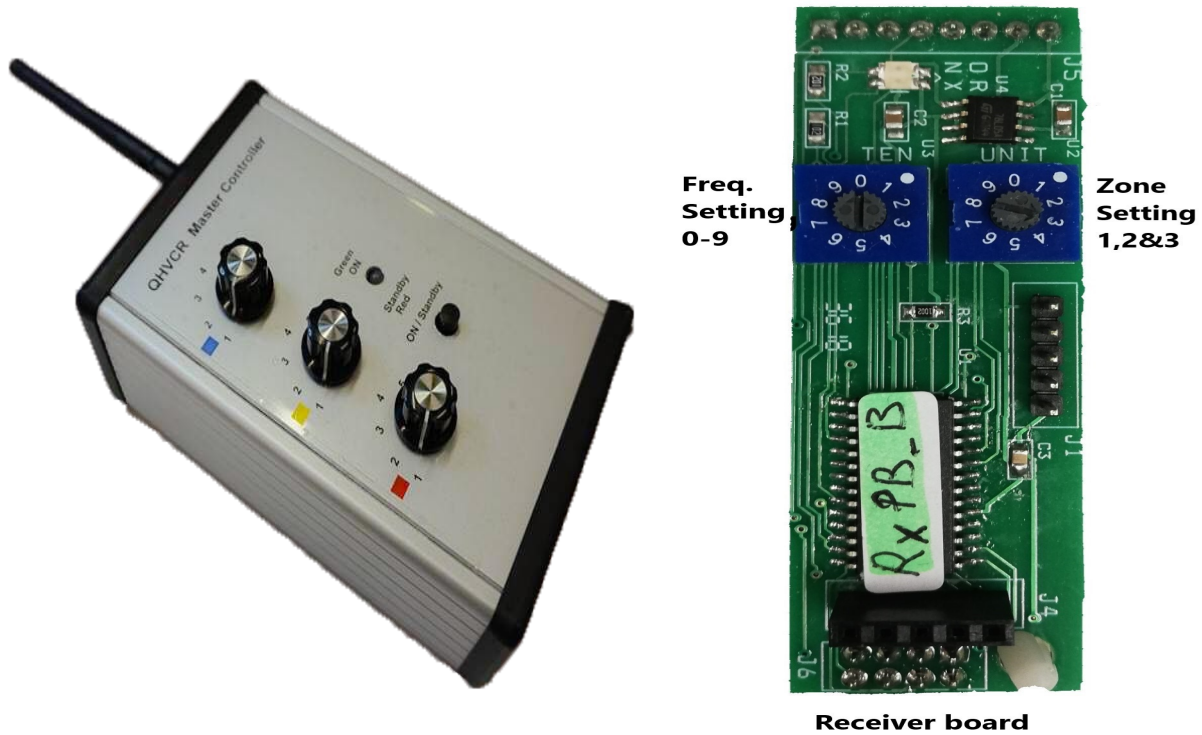

Fig 9
- 3) The QHCxxMR unit is preset as a Blue zone (1). Turn the Blue control dial to position **2**. The heaters connected to the QHCxxMR units will come ON at the minimum setting 33%. Continue to turn the Blue control dial through position **3** to **5** until you reach the desired setting. Settings are **1 = 0%**, **2 = 33%**, **3 = 50%**, **4 = 66%** & **5 = 100%**.
- 4) QHCxxMR units which are preset to Yellow & Red zones are controlled by the Yellow & Red control dials respectively and will operate as above see fig 9.